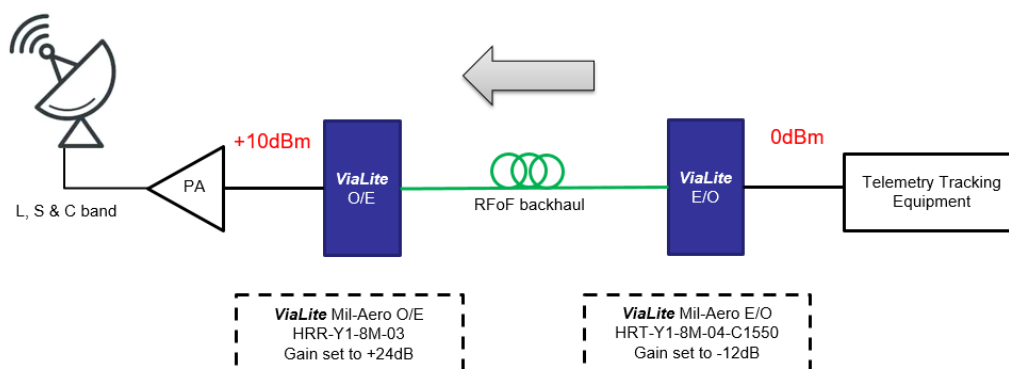

Figure 5. **ViaLite** 6 GHz Mil-Aero high output link pair
For the telemetry uplink path, higher power RF signals are typically output from the Telemetry Tracking equipment which in turn needs to be connected to the input of an uplink Power Amplifier (PA) positioned near the antenna. Higher RF power levels need to be treated with care, particularly as they get closer to P1dB compression level and harmonic components increase. Typically the system performance would need these harmonic components to be 35dB less than the wanted carrier signal. In the example shown in Figure 5, the